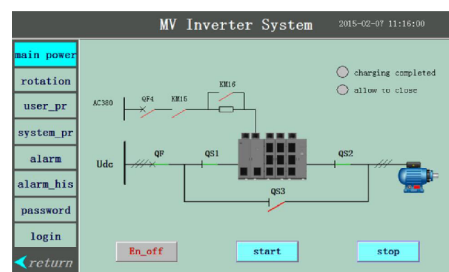

Fig.6
- Operation Function Test by Using Low Voltage(Fig.6)